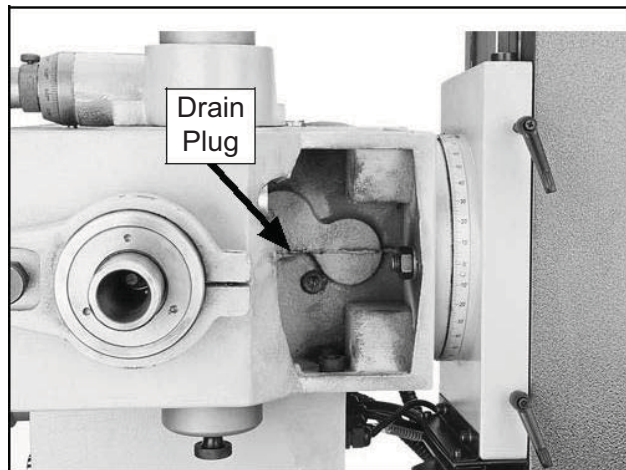

Figure 27. Headstock drain plug (headstock tilted 90° for clarity).
5. Remove the drain plug (see **Figure 27**) from underneath the headstock. Allow the oil to completely drain into the pan.